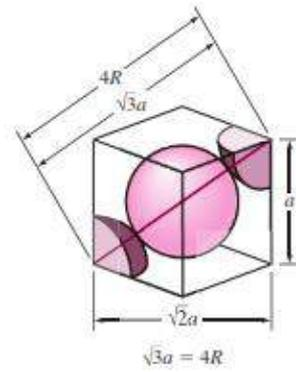

Figure 3.5
- BCC unit cell are not in contact along the unit cell edge; instead, the atoms make contact along the diagonal that connects opposite corners of the cube, called the body diagonal as indicated in fig3.5.
From Fig. 3.5 it is seen that the atoms in the BCC unit cell touch across the cube diagonals. Thus, if a is the length of the cube edge, then